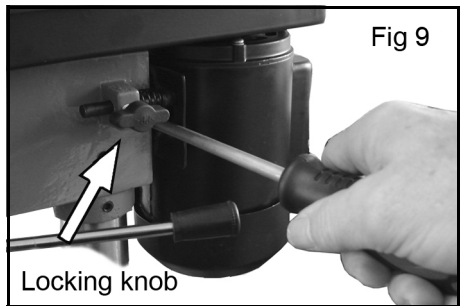

Fig 9
2. Lever the motor/bracket, away from the head as shown in Fig 9, so that tension is applied to the belts.